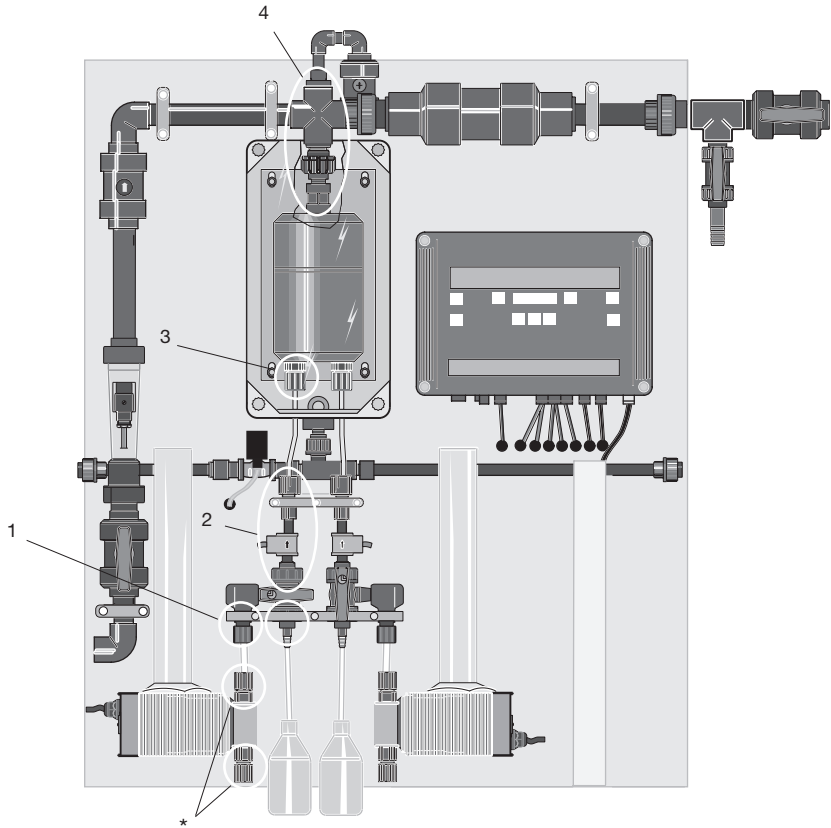

Fig. 13
- All metering line seals (from the intake valve of the metering pumps to the system's injection valves- see Fig. 13 and 14)